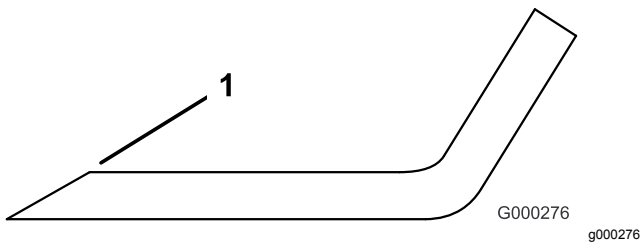

Figure 69
1. Sharpen the cutting edge at both ends of the blade (Figure 69).